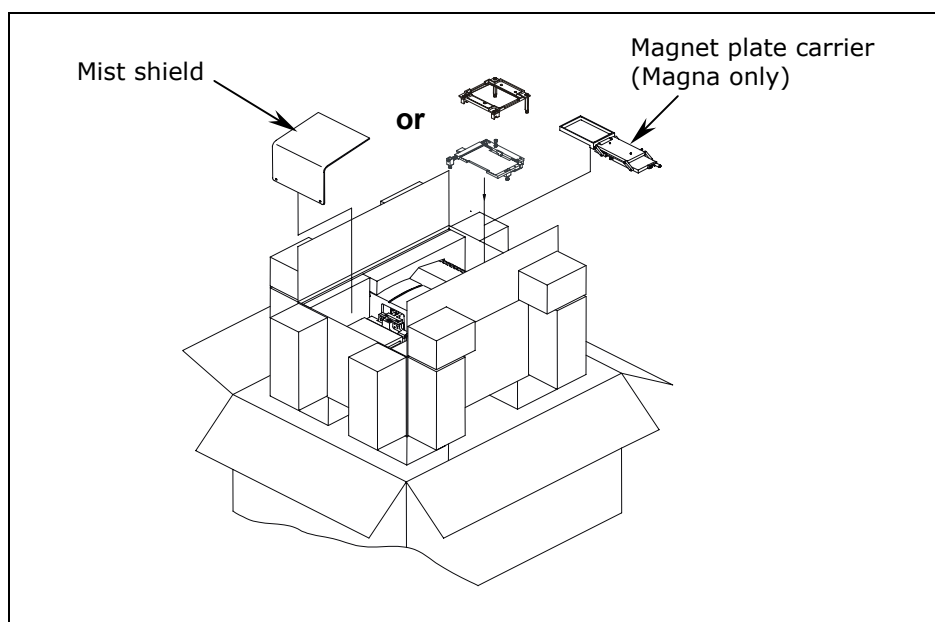

Figure 3: Removing the Carrier and Other Accessories
4. Remove the mist shield, model-specific carrier, shipping document kit, and other accessories (**Figure 3**) listed in ***Package Contents, Chapter 1***.